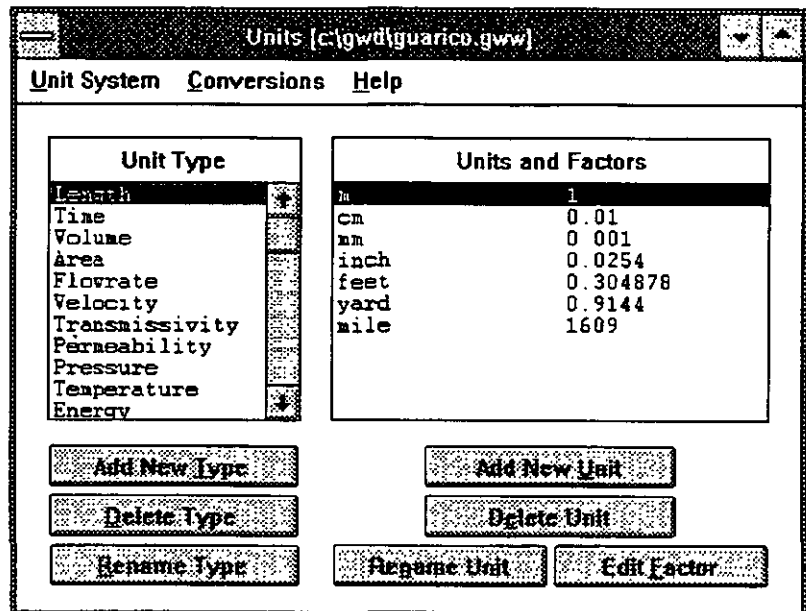
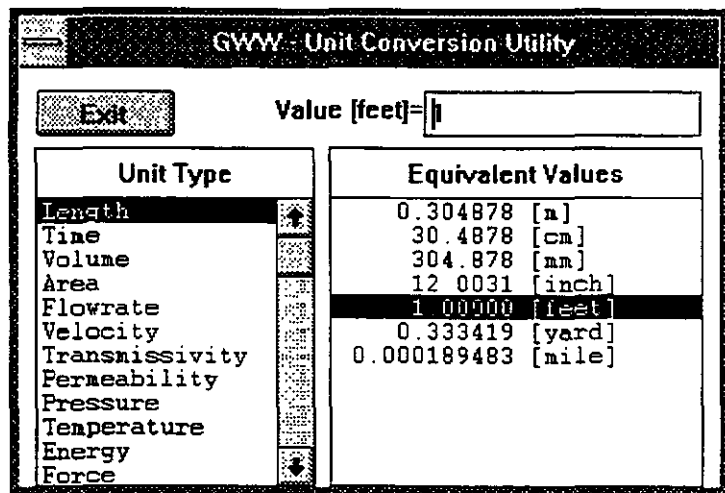
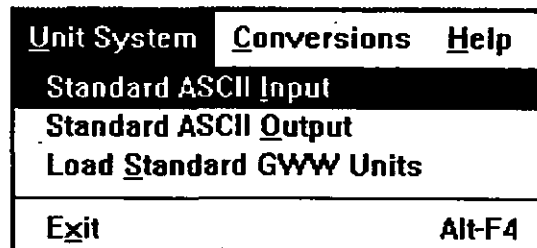

Figure 4-2
Figure 4-7
Figure 4-9
2. Move the cursor to **Units** or type letter U. The subprogram UNITS.EXE is loaded and the screen will display Unit types, Units and Factors as shown in Figure 4-2. You will notice that context-sensitive HELP is also available for this part of the program.
This is a calculator which you may use to recalculate some values expressed in one unit to their equivalents in other units. For example, you may wish to calculate length in feet. Once you are in Units subprogram you should select conversions (see Figure 4-2). The **GWV Unit Conversion Utility** as shown in Figure 4-7 will be displayed. The procedure is as follows.
On Units menu bar (Figure 4-2) you will notice option **Unit System**. When you click on Unit System the display looks like shown in Figure 4-9. You have three options: